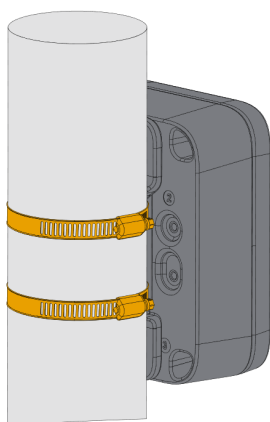

Figure 15: Fixing the enclosure on the pole
3. After fixing the mounts on the enclosure, place the WisBlock Unify Enclosure onto the pole by using two (2) steel strips (60-85 mm), as shown in **Figure 15**.